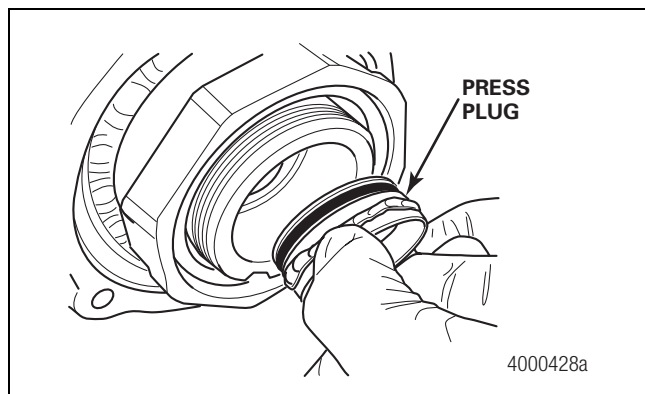

Figure 2.21
16. Insert the press plug into the spindle bore until the plug stops in the bore. Figure 2.21.